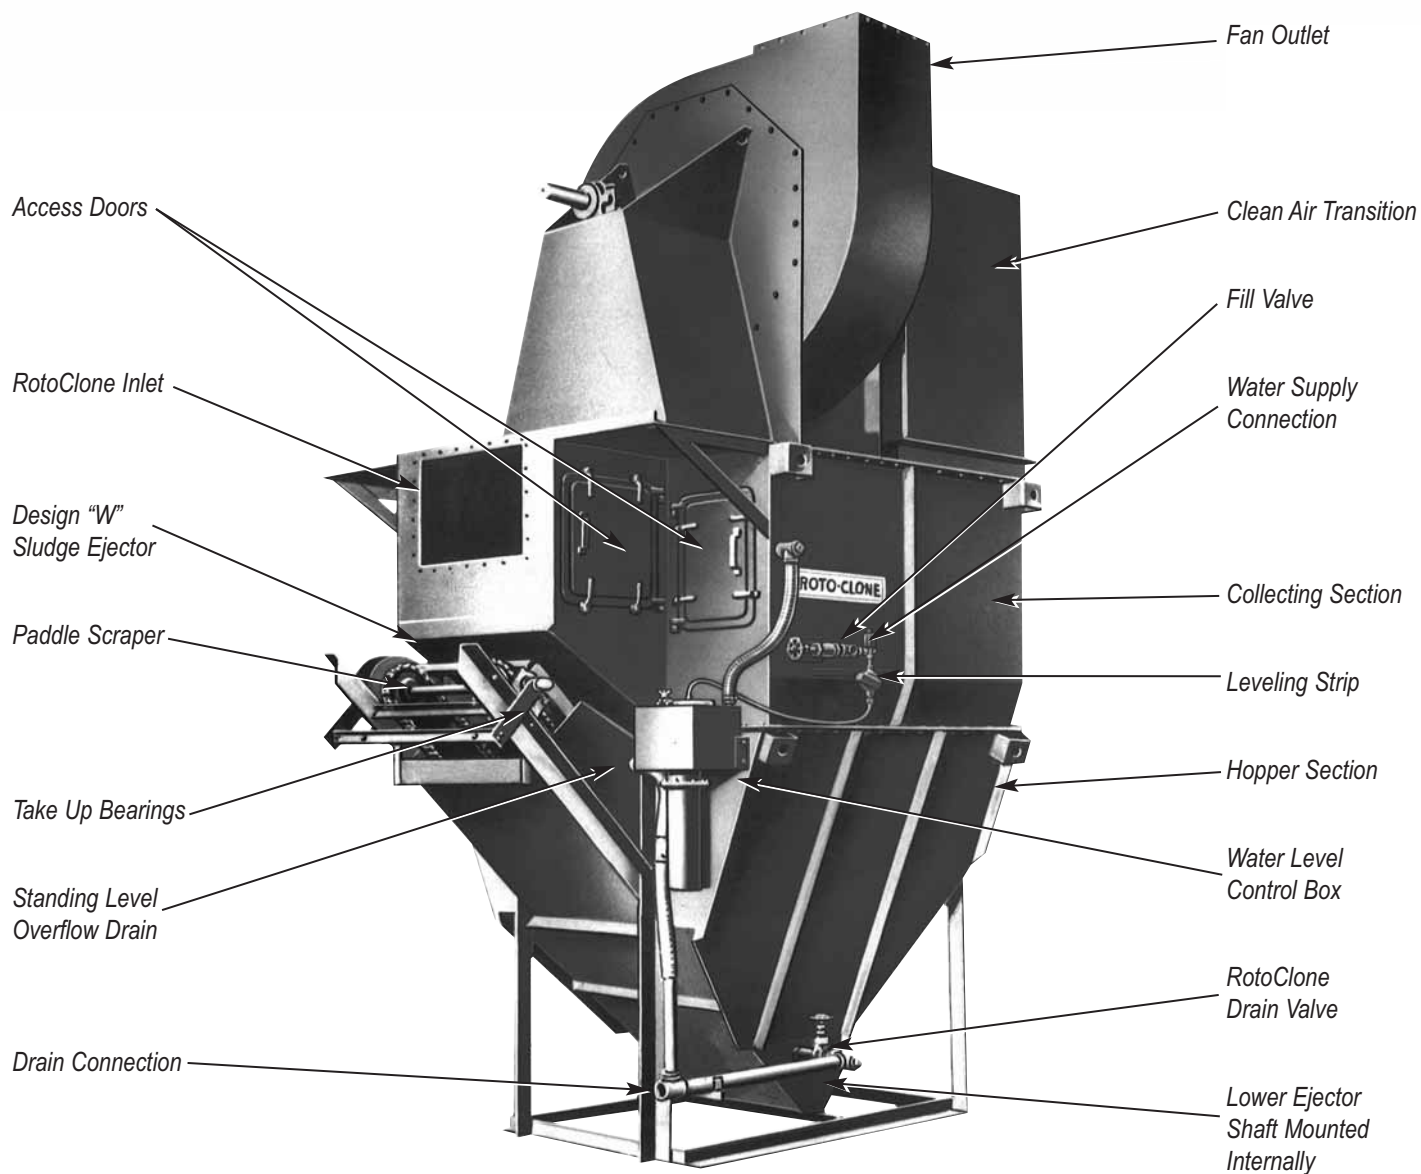

Figure 4. Typical Type N RotoClone with Design "W2" Ejector. Sizes 1½ through 12.
Connect a 1" line for Size 1½ thru 6 or a 2" line for Sizes 8 and larger at point shown on Figure 4.
Connect a 2" drain line for Sizes 1½ thru 12 or a 4" drain line for Sizes 16 and larger at point shown on Figure 4.
1. Be certain Drain Valve in RotoClone (Figure 4) is closed.
2. Open Fill Valve (Figure 4) and add water until it reaches the standing level overflow drain (Figure 4) connected from side of ejector chute to drain by a rubber hose.